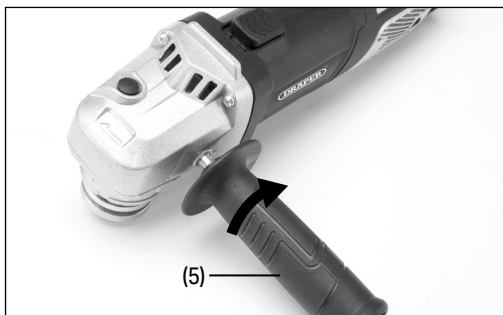

Fig. 1
6.1 Fitting the Auxiliary Handle (Fig. 1)